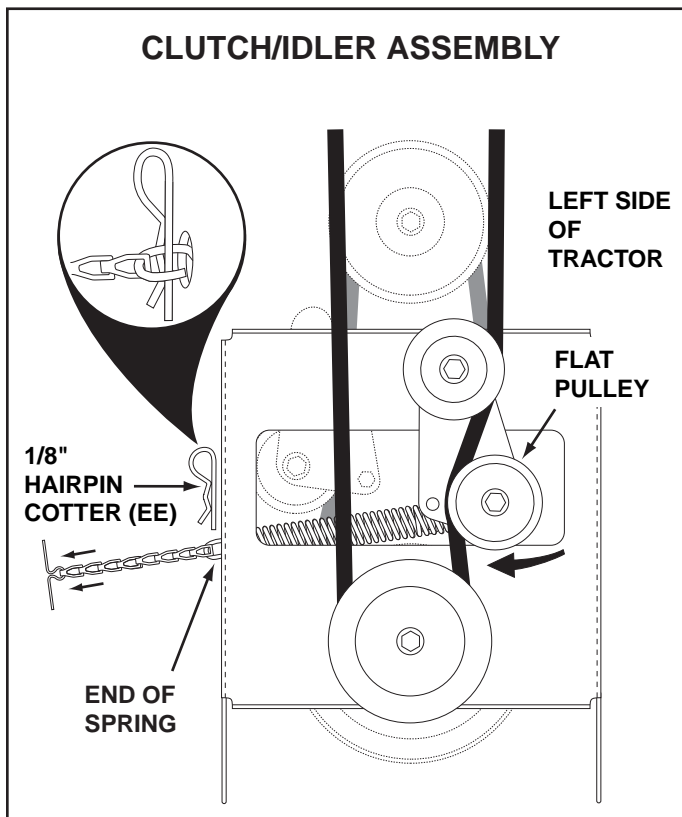

FIGURE 57
STEP 59: (SEE FIGURE 57)
- Pull the tensioning chain until the end of the spring is pulled through the hole in the side of the Clutch/Idler assembly. Install a 1/8" hairpin cotter (EE) through the end of the spring, securing it on the outside of the Clutch/Idler assembly.